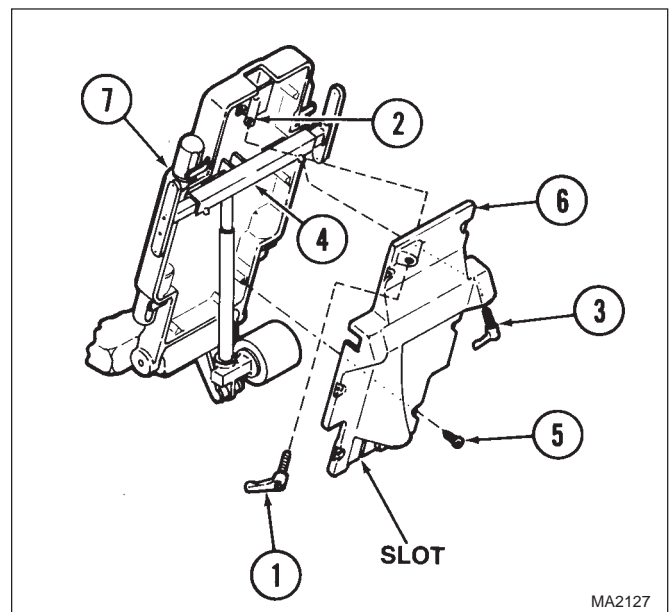

Figure 4-1. Back Cover Removal / Installation
- (1) Remove large handle (1, Figure 4-1) from tube weldment (2) by unscrewing large handle.
- (2) Remove two small handles (3) from outer tube weldment (4) by unscrewing small handles.